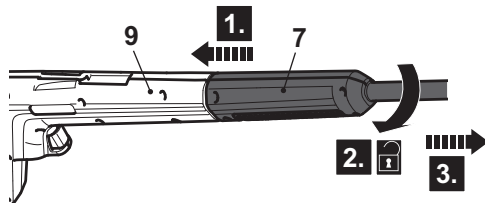

Fig. 7
2. Press the extension lance (7) towards the spray gun (9) (Fig. 7, step 1) and turn it anti-clockwise (step 2) to remove it (step 3).